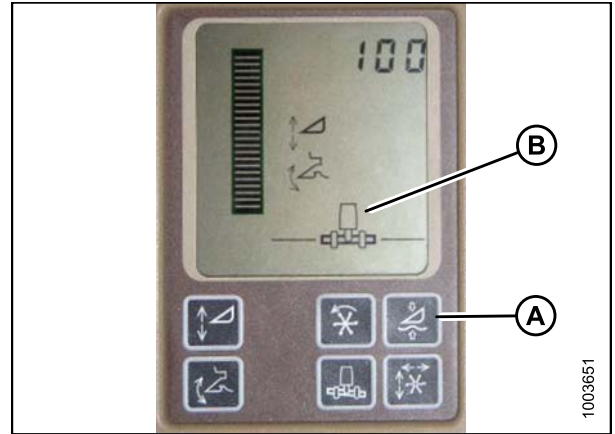

Figure 7.37: Combine Display
Do **NOT** use the active header float function (A) in combination with the MacDon Auto Header Height Control (AHHC) – the two systems will counteract one another. The header symbol (B) on the display should NOT have a wavy line under it and should appear exactly as shown on the Active Header Control Display in Figure 7.37: *Combine Display*, page 77.